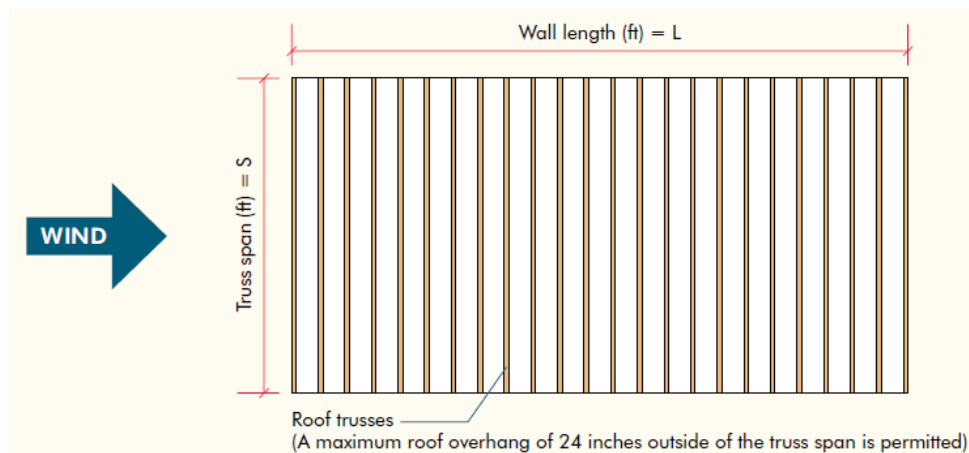

Figure 1. Definition of terms for Tables 1a - 3b
- (b) See Figure 1 for wall configuration.